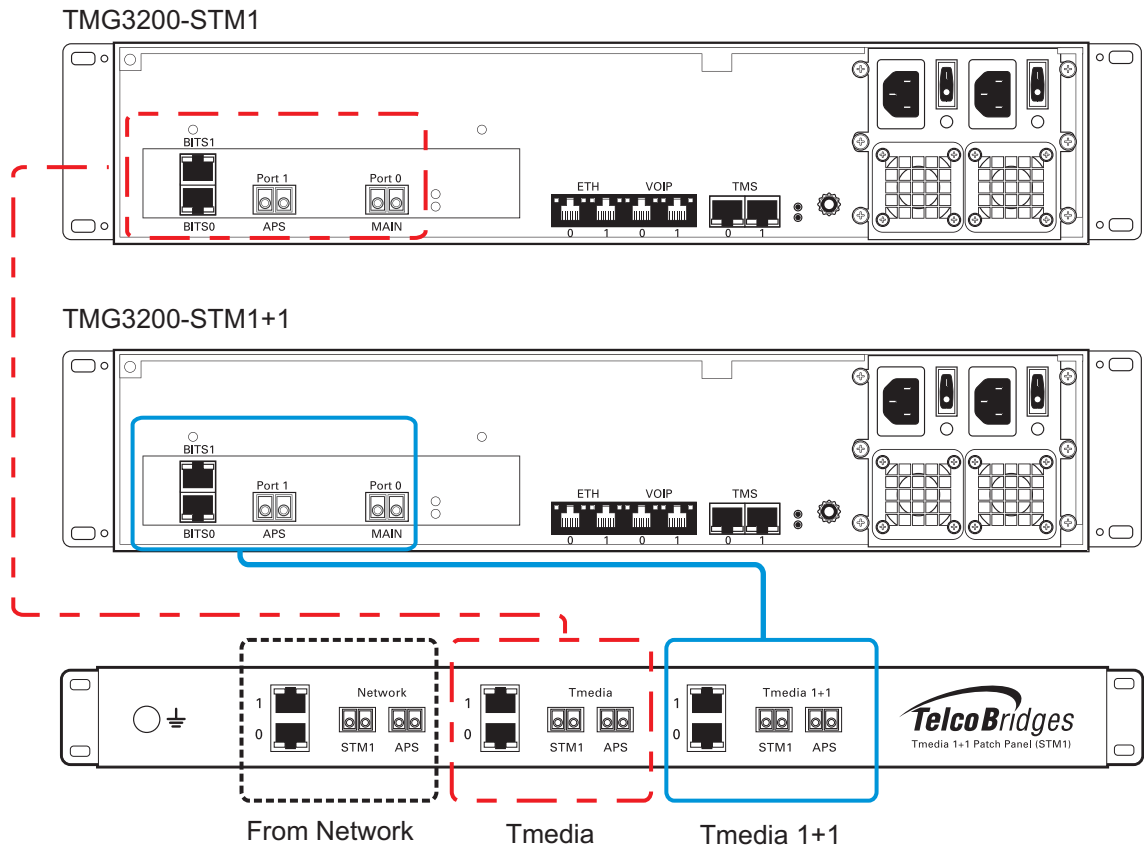

Figure 2.16 TMG3200-STM1 and TMG3200-STM1 +1 connecting to the STM1 1+1 1+1 patch panel
A TMG3200-STM1 and TMG3200-STM+1, each with one main and one backup OC3 or STM1 port enables the connection to OC3/STM1 lines. See figure 2.16 on page 40. Refer to table 2.4 on page 39 for a listing of optical interfaces. The default SFP module for OC3/STM1 connection is SMF, intermediate reach, (SFP-OC3-IR1) 1310 nm with LC type connectors.
1. Connect each OC3/STM1 line of the network section of the 1+1 patch panel to the remote equipment. See figure 2.16 on page 40.